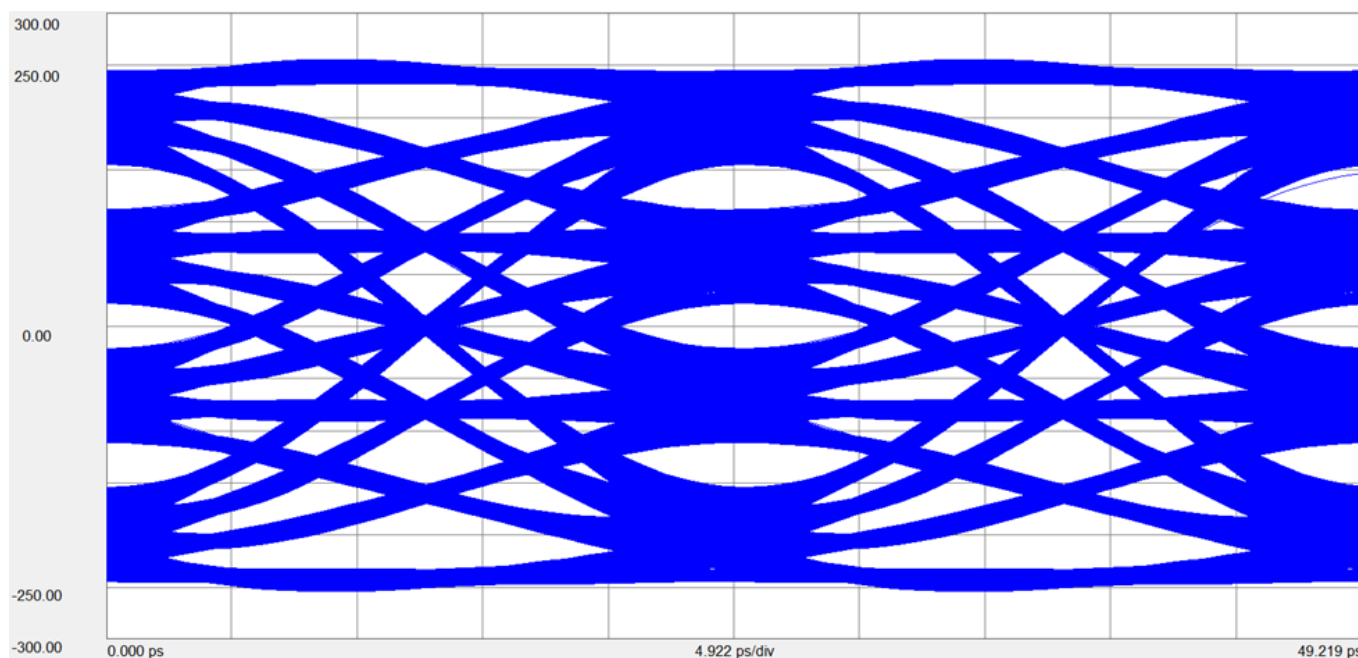
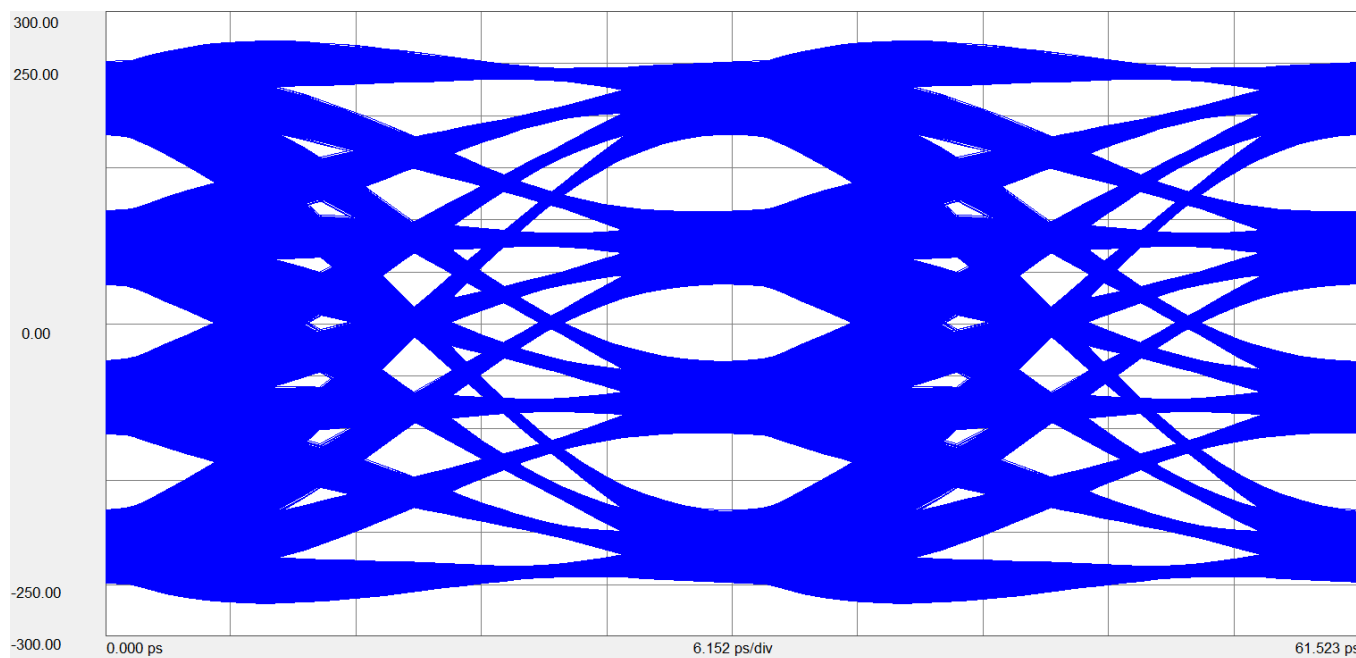

Figure 1. HS1-HS2 Differential PAM4 Eye Diagram (80Gbps)
Figure 3. MS1-MS2 Differential PAM4 Eye Diagram (64Gbps)
- Signal path: (Figure 1 and 2) HS1 to HS2, (Figure 3) MS1 to MS2